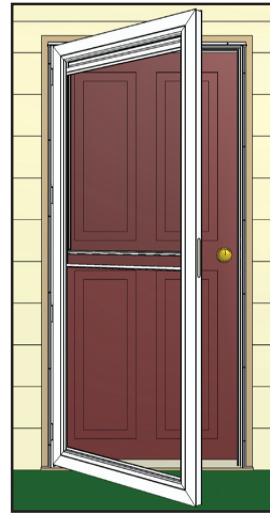

Figure 5
1. Left Hinged (Figure 5) - From the exterior, a left hinged storm door will have the hinge rail on the left side of the storm door. Refer to the illustrations in the column on the left side of the installation guide under this heading: